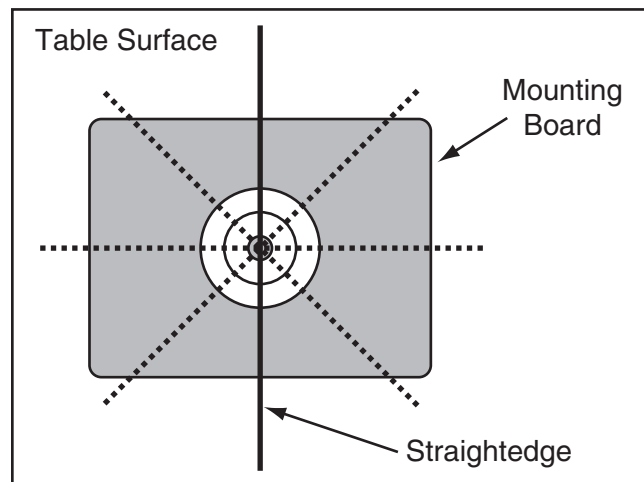

Figure 13. Star pattern for the straightedge when aligning the mounting board with the table.
3. Lay the straightedge across the router mounting board and table inserts in a star pattern (see **Figure 13**) so that both ends are over the table.